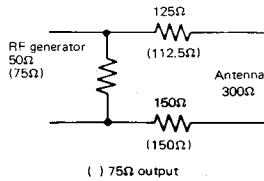

Fig. 1 Dummy antenna
- * When connecting the r.f. generator to the antenna terminal, use the dummy antenna . . . refer to Fig. 1.